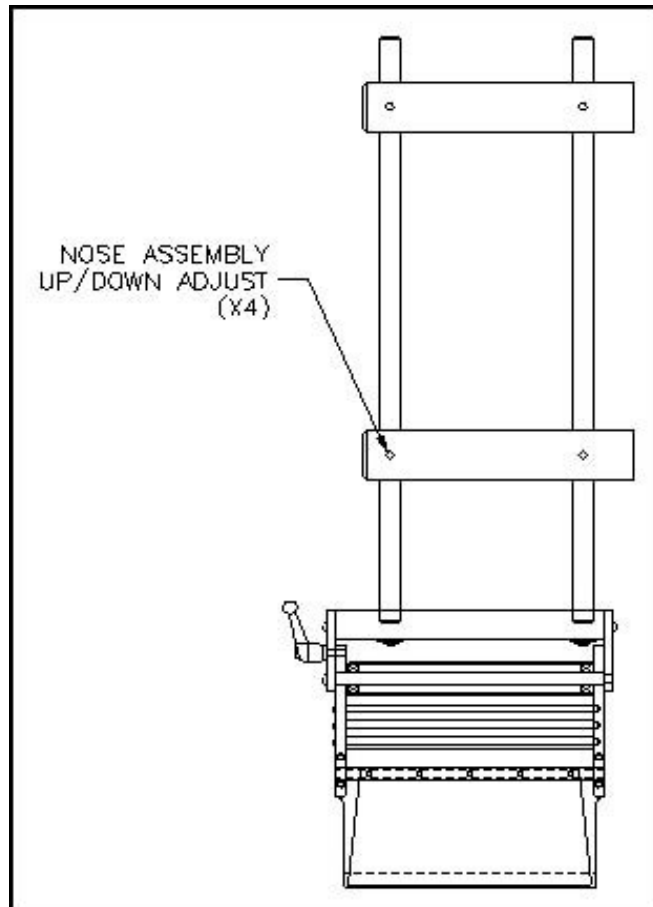

Figure 14 Nose Height Adjustment
5. Loosen the nose assembly height adjustment screws and move the nose assembly up or down to position the peeler plate about 1/8 inch away from the highest point of the product labeling surface. Tighten the nose assembly height adjustment screws. If necessary, use the U-arm to reposition the entire applicator. See *Figure 14*.